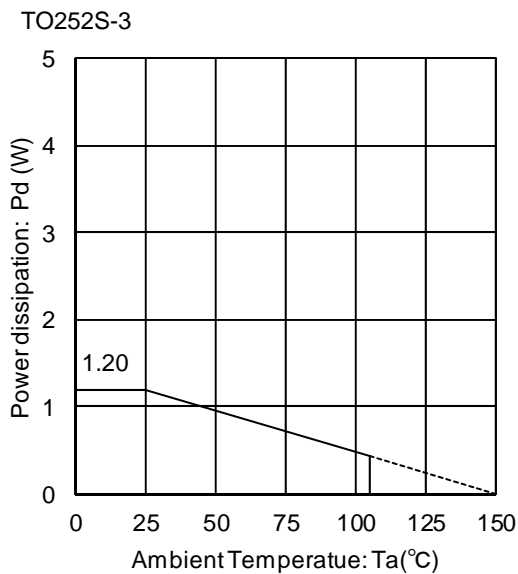
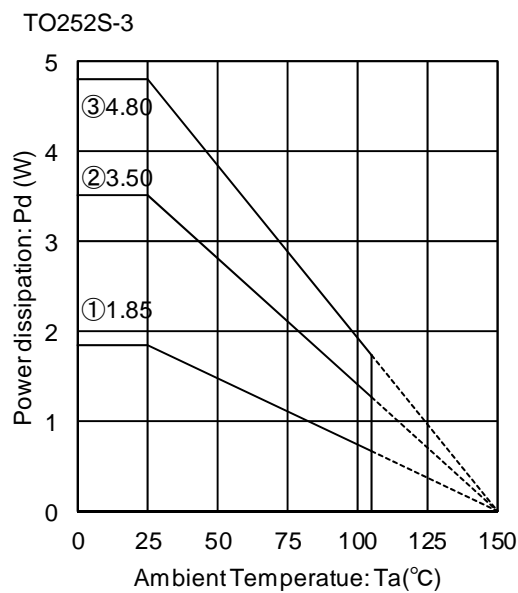

Figure 25.
Figure 26.
When used at temperatures over  $T_a=25^{\circ}\text{C}$ , please refer to the power dissipation curve shown in Figure 25 and Figure 26. The IC characteristics are closely related to the temperature at which the IC is used, so it is necessary to operate the IC at temperatures less than the maximum junction temperature  $T_{j\text{max}}$ .
Figure 25 and Figure 26 show the acceptable power dissipation curve of the TO252S-3 package. Even when the ambient temperature  $T_a$  is at normal temperature ( $25^{\circ}\text{C}$ ), the chip (junction) temperature  $T_j$  may be quite high, so please operate the IC at temperature less than the acceptable power dissipation  $P_d$ .
The calculation method for power consumption  $P_c(\text{W})$  is as follows : (Figure 26③)
$$\left( \begin{array}{l} \text{Figure 26③ : } \theta_{ja}=26.0^{\circ}\text{C/W} \rightarrow -38.4\text{mW/}^{\circ}\text{C} \\ 25^{\circ}\text{C}=4.80\text{W} \rightarrow 85^{\circ}\text{C}=2.496\text{W} \end{array} \right)$$